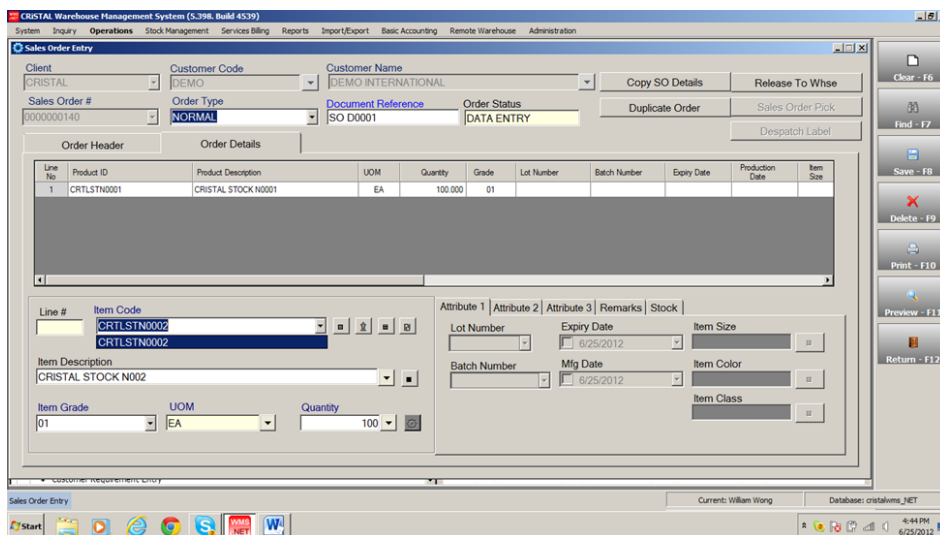

Fig.2
4.3.1.2. Order Details (Fig.2)